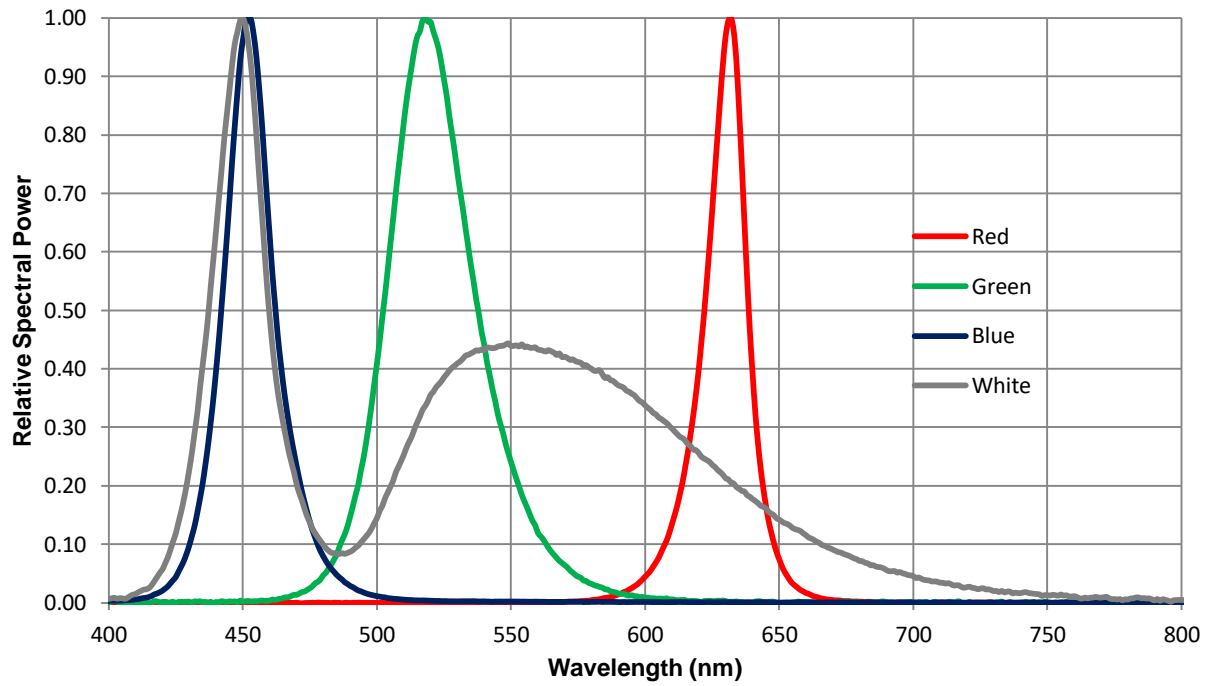

Figure 5: Typical relative spectral power vs. wavelength @ T_C = 25°C
- Solder conditions per JEDEC 020D. See Reflow Soldering Profile Figure 5.